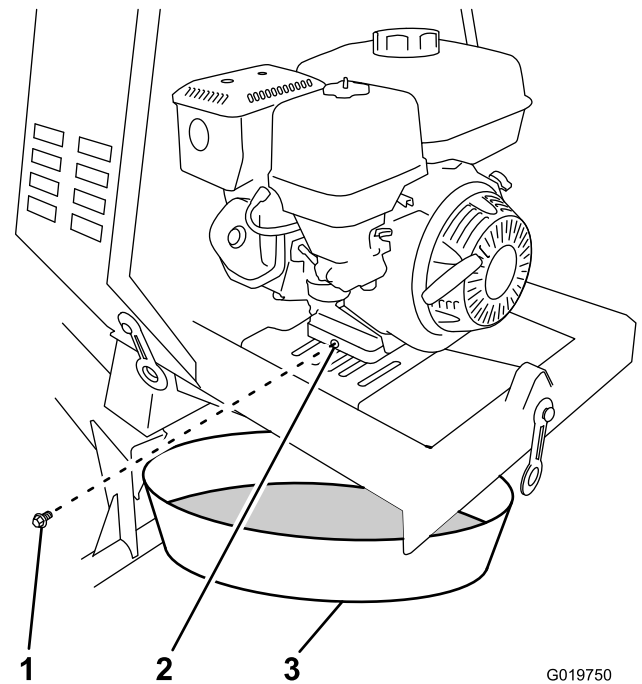

Figure 52
3. Place a drain pan under the oil drain hole of the engine (Figure 52).
4. Remove the drain plug and catch the oil in the oil drain pan (Figure 52).
5. When the oil has drained completely, install the drain plug with a new washer (Figure 52).